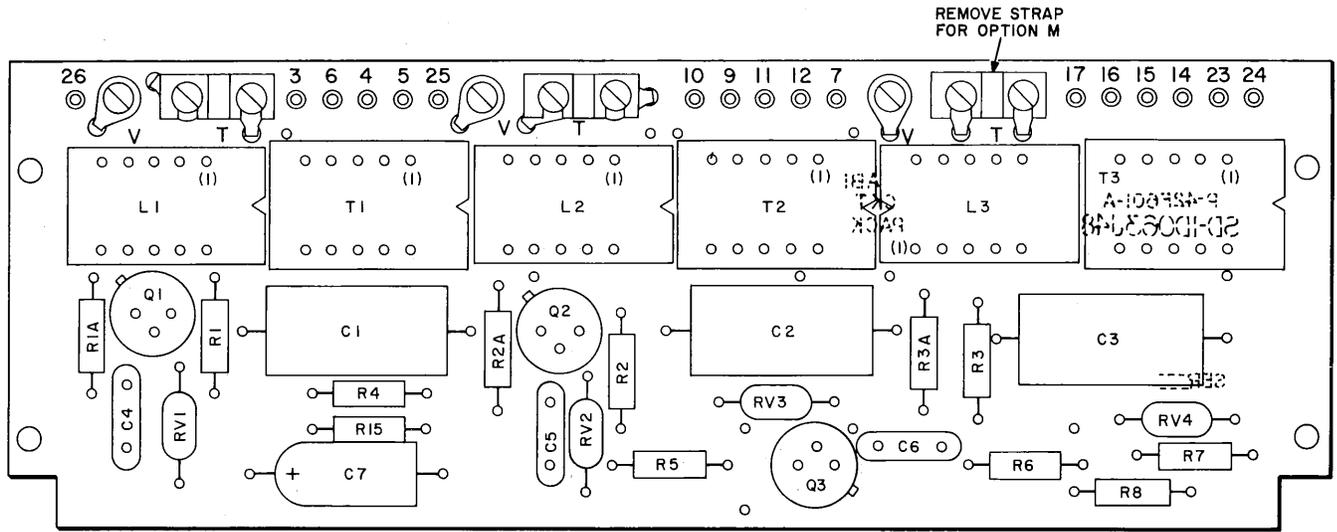

Fig. 10—CP 1 Component Arrangement
**5.05 *Circuit Pack Identification (Fig. 10, 11, and 12):*** The information necessary to locate the individual components on the circuit packs is given in Table C. Table C gives the circuit pack assembly number, circuit pack features, and a reference to the figure illustrating the circuit pack. This information in conjunction with the information in Parts 2, 3, and 4, should aid in isolating trouble within the data set.